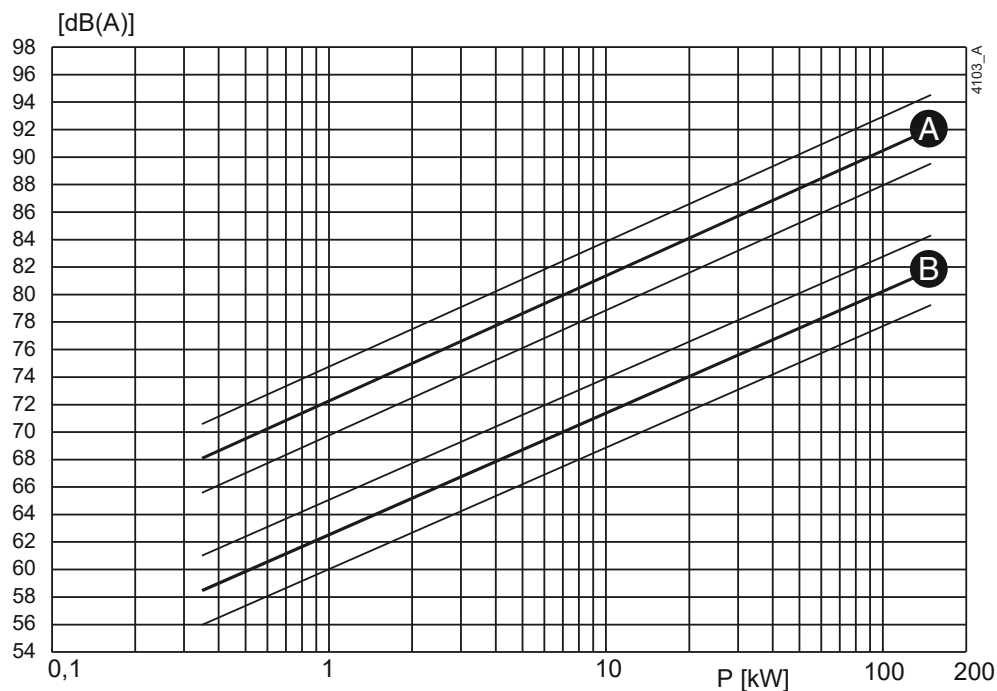
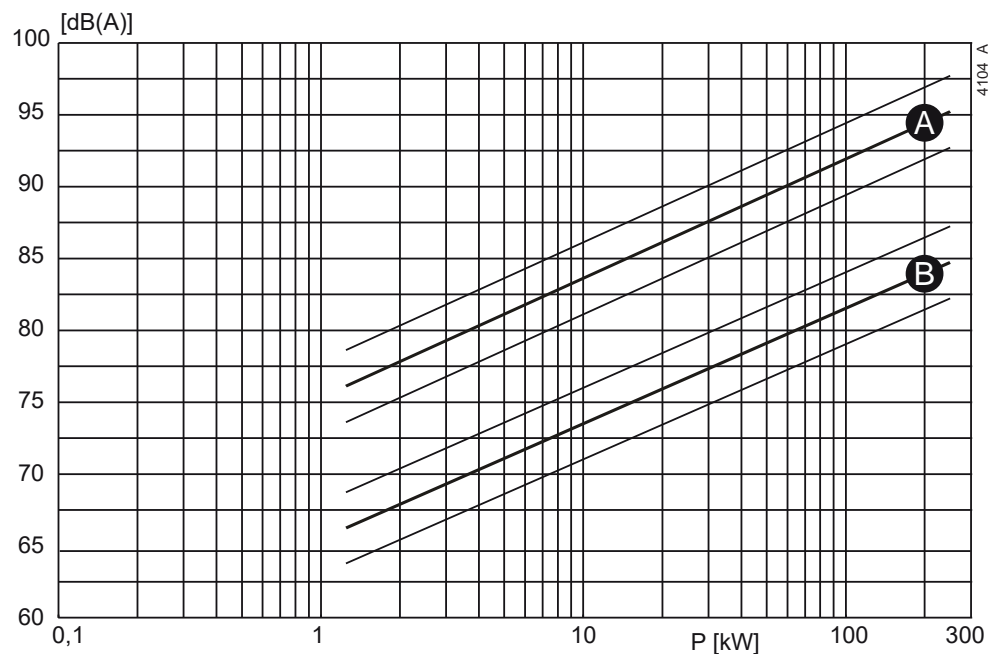

Figure 30: Noise level as function of pump power [kW] at 1450 min^{-1}
Figure 31: Noise level as function of pump power [kW] at 2900 min^{-1}
- 1 Determine the noise level (L_1) of the pump, see figure 30 or figure 31.